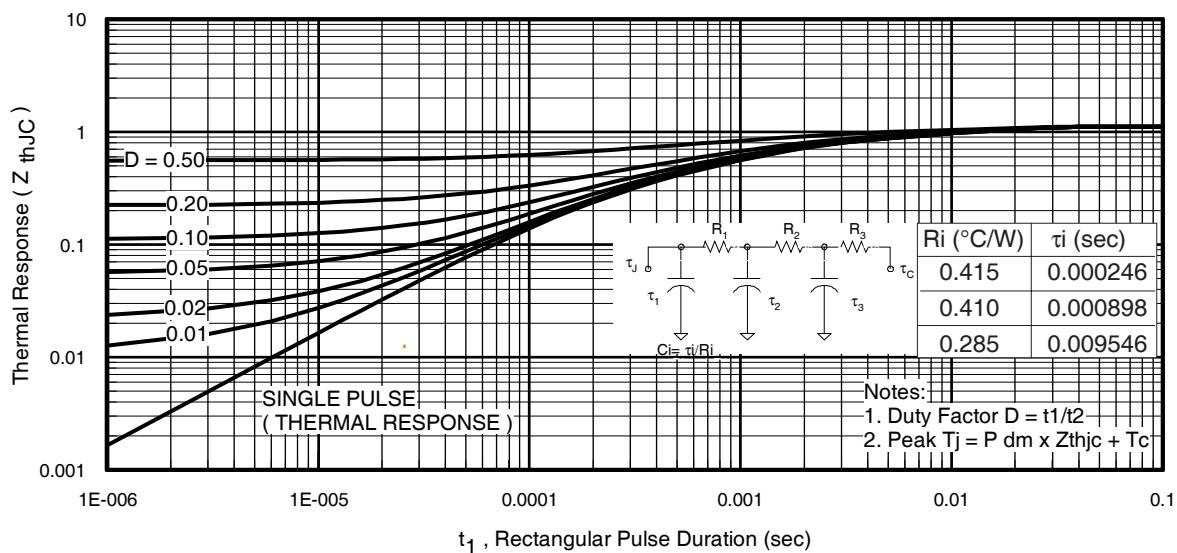
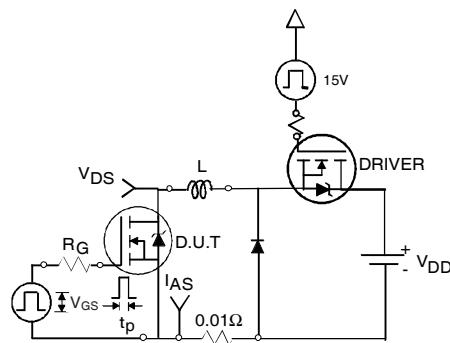

Fig 11. Maximum Effective Transient Thermal Impedance, Junction-to-Case
Fig 12a. Unclamped Inductive Test Circuit
- ① Repetitive rating; pulse width limited by max. junction temperature. (See fig. 11).
- ② Limited by $T_{J\text{max}}$, starting $T_J = 25^\circ\text{C}$, $L = 0.077\text{mH}$, $R_G = 25\Omega$, $I_{AS} = 51\text{A}$, $V_{GS} = 10V$. Part not recommended for use above this value.
- ③ $I_{SD} \leq 51\text{A}$, $dI/dt \leq 260\text{A}/\mu\text{s}$, $V_{DD} \leq V_{(\text{BR})\text{DSS}}$, $T_J \leq 175^\circ\text{C}$.
- ④ Pulse width $\leq 1.0\text{ms}$; duty cycle $\leq 2\%$.
- ⑤ $C_{oss \text{ eff.}}$ is a fixed capacitance that gives the same charging time as C_{oss} while V_{DS} is rising from 0 to 80% V_{DSS} .
- ⑥ Limited by $T_{J\text{max}}$, see Fig.12a, 12b, 15, 16 for typical repetitive avalanche performance.
- ⑦ This value determined from sample failure population. 100% tested to this value in production.
- ⑧ This is applied to D²Pak, when mounted on 1" square PCB (FR-4 or G-10 Material). For recommended footprint and soldering techniques refer to application note #AN-994.
3. Equation below based on circuit and waveforms shown in Figures 12a, 12b.
- Z_{thJC}(D, t_{av}) = Transient thermal resistance, see figure 11)